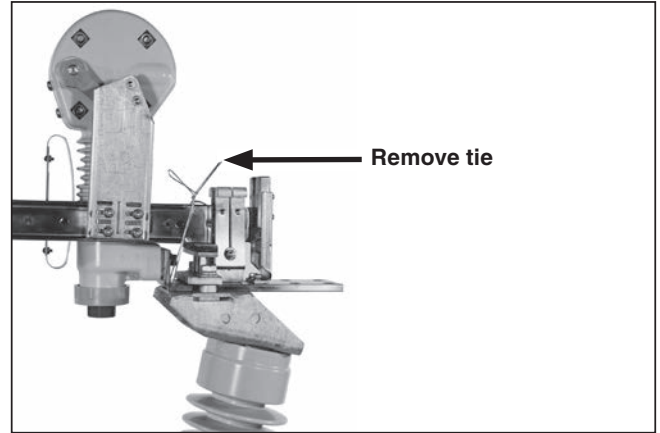

Figure 18. Removing the tie at the stationary main contact assembly.
STEP 17. Remove the ties holding the switch blades to their stationary main contact assemblies. See Figure 18.